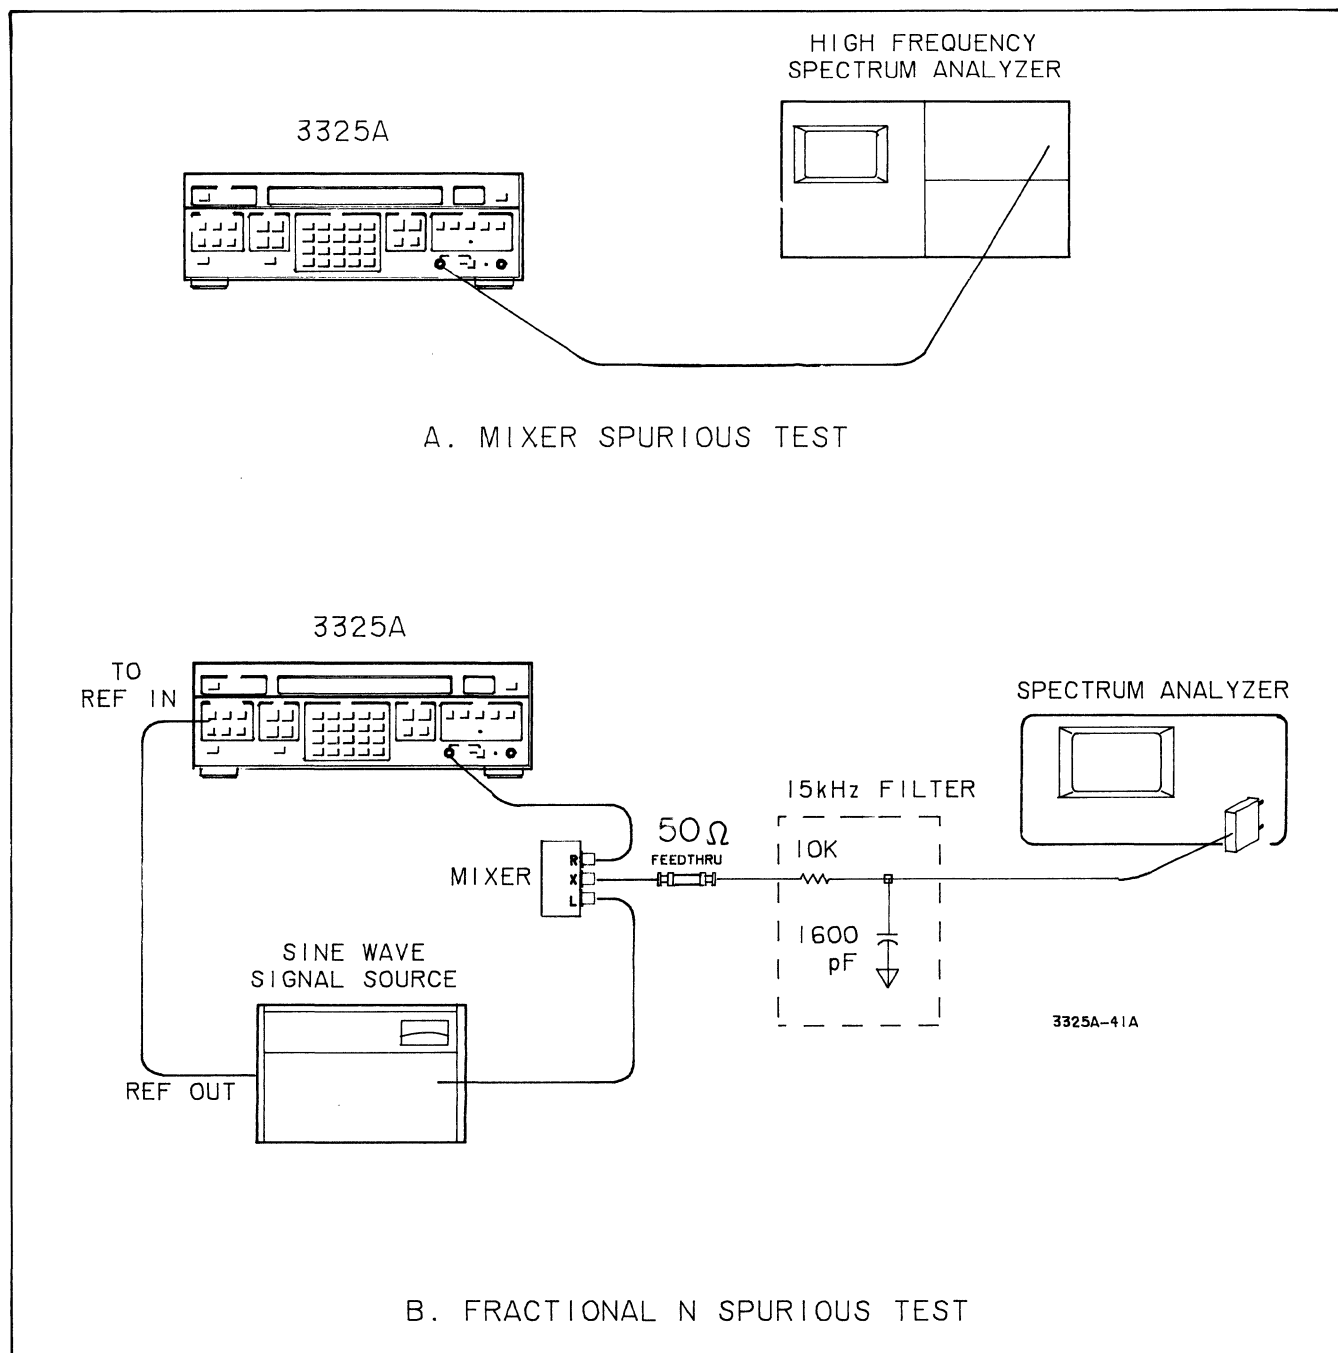

Figure 4-3. Spurious Tests.
a. Connect the 3325A signal output to the high frequency spectrum analyzer 50-ohm input as shown in Figure 4-3(a).
f. Connect the equipment as shown in Figure 4-3(b).